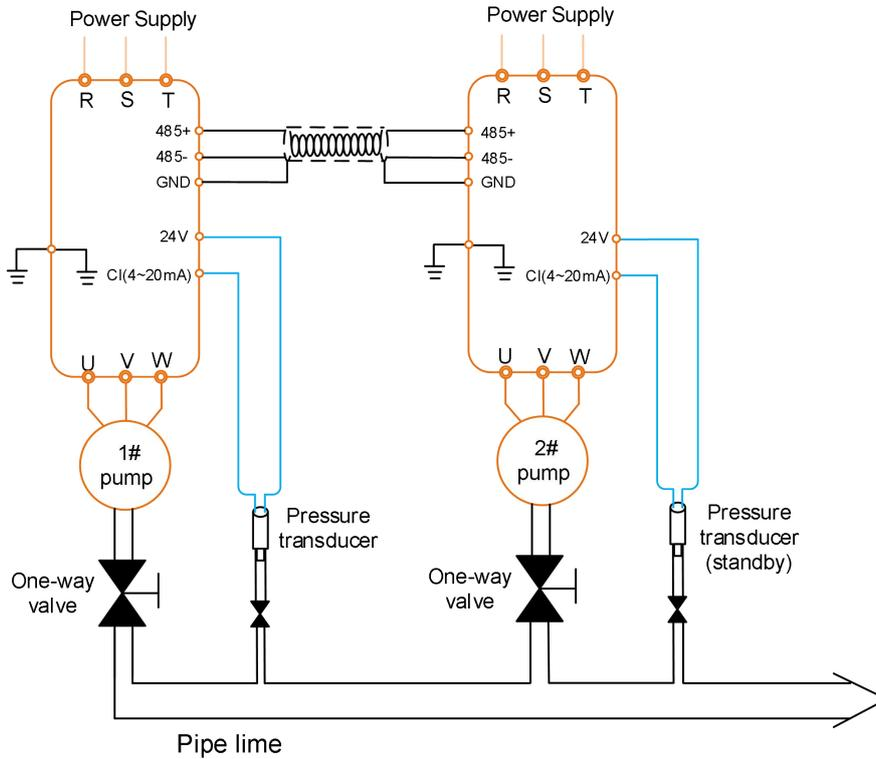
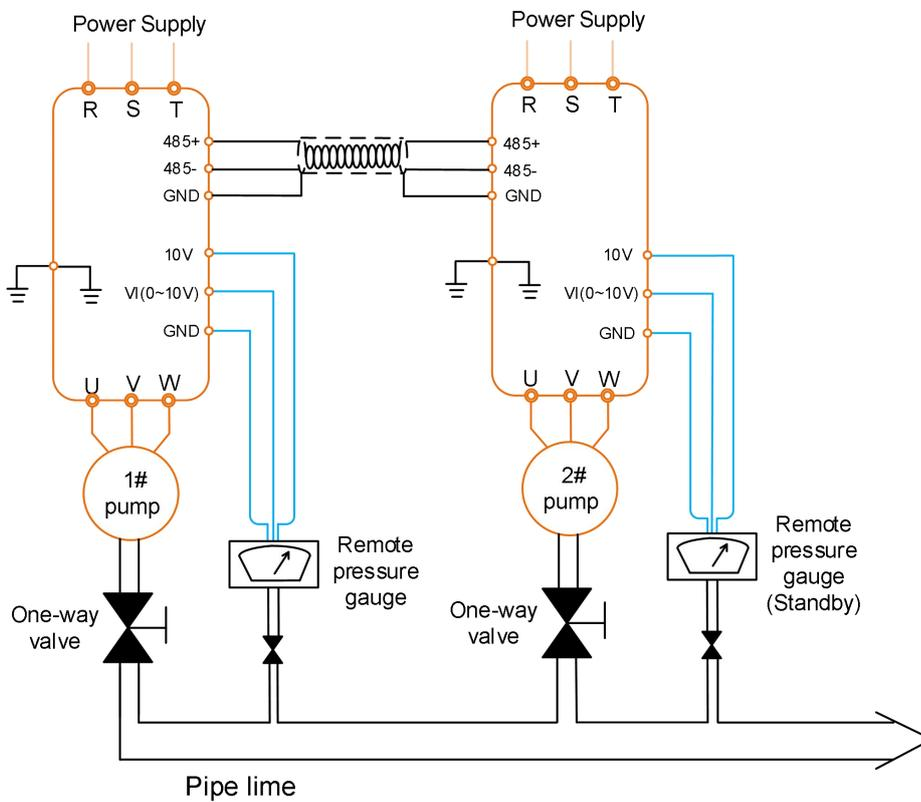

Fig 8.3 Connect with pressure transducer
Fig 8.4 Connect with remote pressure gauge
- ① Main circuit, please connect the power supply to R, S, T (Single phase please connect R, T), and output side please connect U, V, W with pump.
- ② Connect the pressure transducer or remote pressure gauge to the inverter correctly, please refer to Fig 8.3 and Fig 8.4 for details.
- ③ Connect the communication cables, please select shielded twisted-pair cable to connect the 485+ and 485- of the two inverters together.
- ① Set F0-00=0 (Manual operation mode) firstly, start the inverter and check whether the running direction of pump is correct. If the running direction is incorrect, change the value of F0-02 or change any two motor cables connection.
- ② Under manual operation mode, discharge the air inside the pump and pipe line.
- ① Set correct value in F0-04.
- ② Under manual operation mode, start the inverter and check whether the feedback pressure and real time display pressure on the inverter are the same. Long time press [▲] or [▼] to increase or decrease pump speed to check whether the feedback pressure is changed accordingly, if the feedback changes, it means the pressures transducer's wiring connection is correct (watch 1# pump).
- ① While start the inverter at the first time or forget some parameters, please set F0-28=1 to initialize the factory default value.
- ② Set parameters one by one based on the above mentioned parameters list, F1-01 ~ F1-04 parameters are only needed to set in master inverter, but for two master system, it needs to set the parameters both in 1# inverter and 2 # inverter..